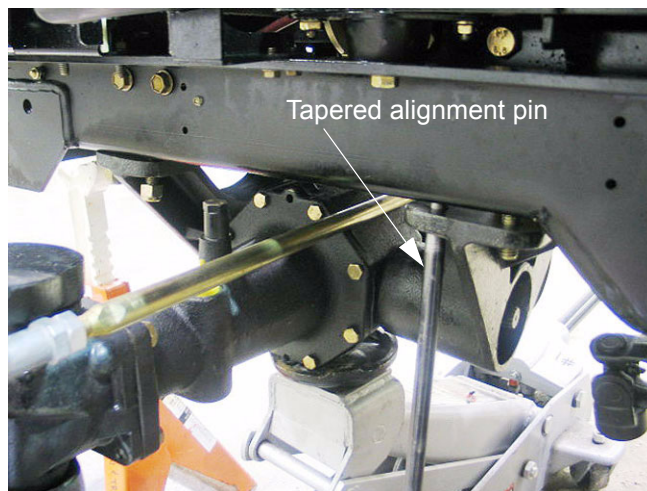

Figure 4.4
- 4.4. Lift the replacement MFD into position. See Figure 4.4.